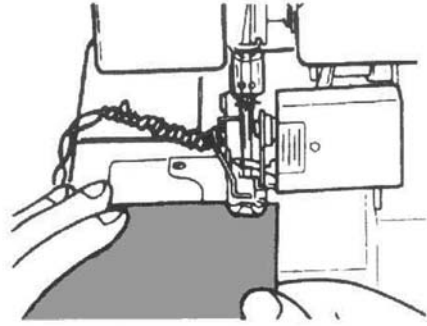

Fig. 51
- Lay all yarns under the sewing foot ②①, to the rear, slightly to the left and over the stitch plate ①③.
- Turn the handwheel ⑥ 2 to 3 revolutions onto itself to begin empty chainstitch formation.
- Lower the sewing foot ②① with the sewing foot lever ④.
- Place the fabric from the front under the sewing foot ②① and sew a test seam (Fig. 51). Under no circumstances should you pull on the textile, otherwise the needle will be bent or could even break off.